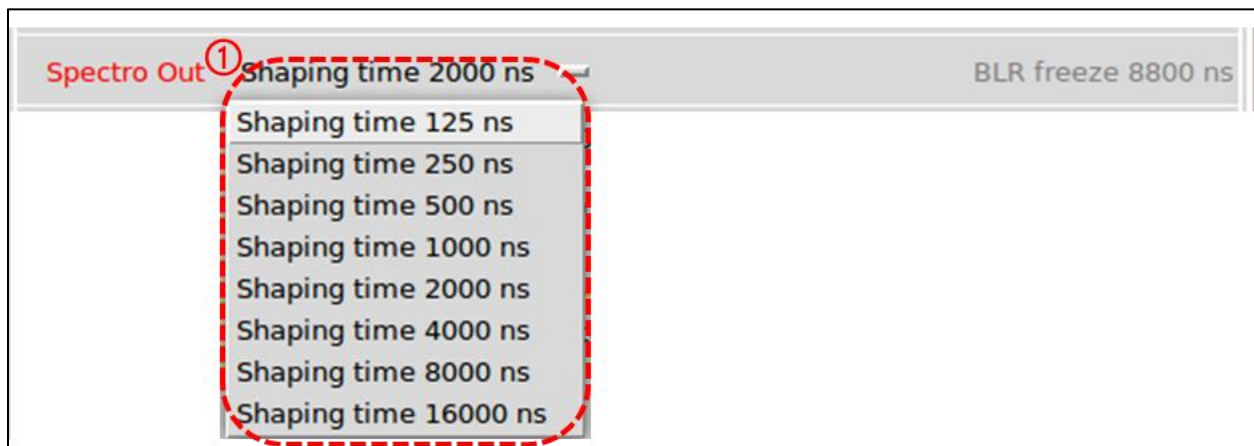

Figure 23: Spectro OUT shaper module / basic mode.
In the basic mode, the experimenter can find the same shaping time choices that he had used with the FASTER CRRC4-Spectro MnM (c.f. Figure 23 ①).